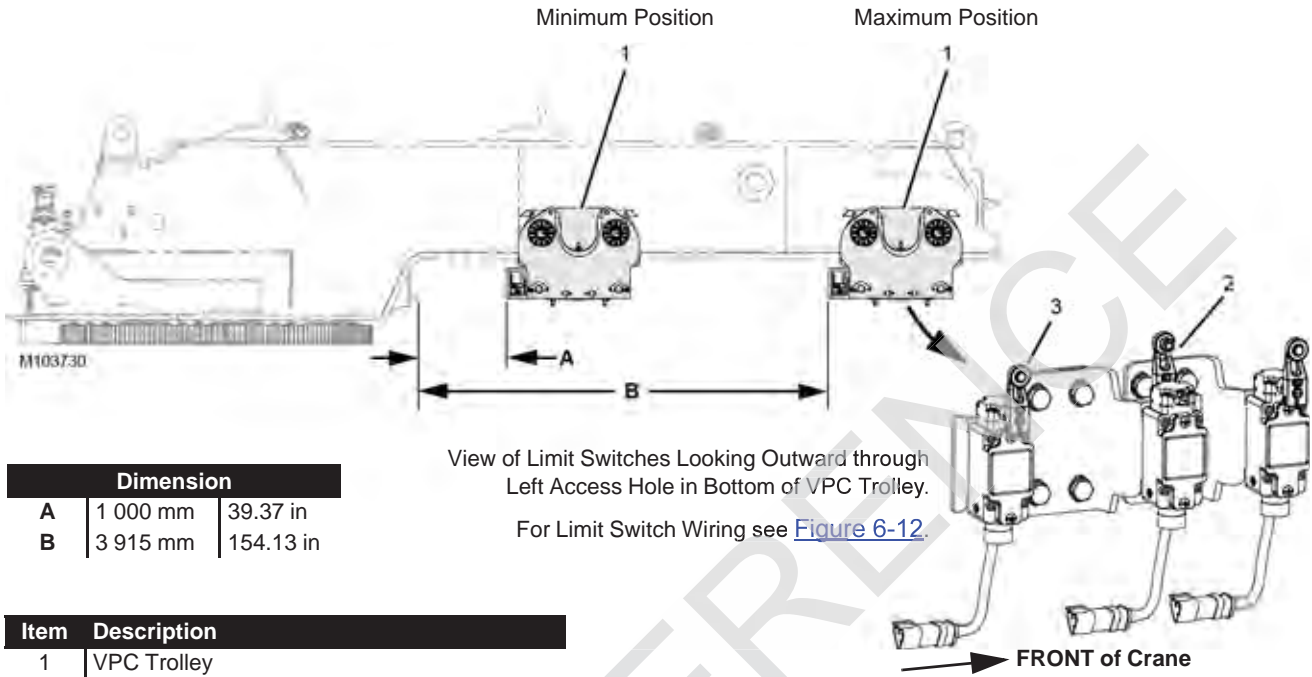

FIGURE 6-10
- b. Using the switch on the remote control, position the VPC trolley (1, Figure 6-10) at dimension A.
- d. Using the switch on the remote control, position the VPC trolley (1, Figure 6-10) at dimension B.